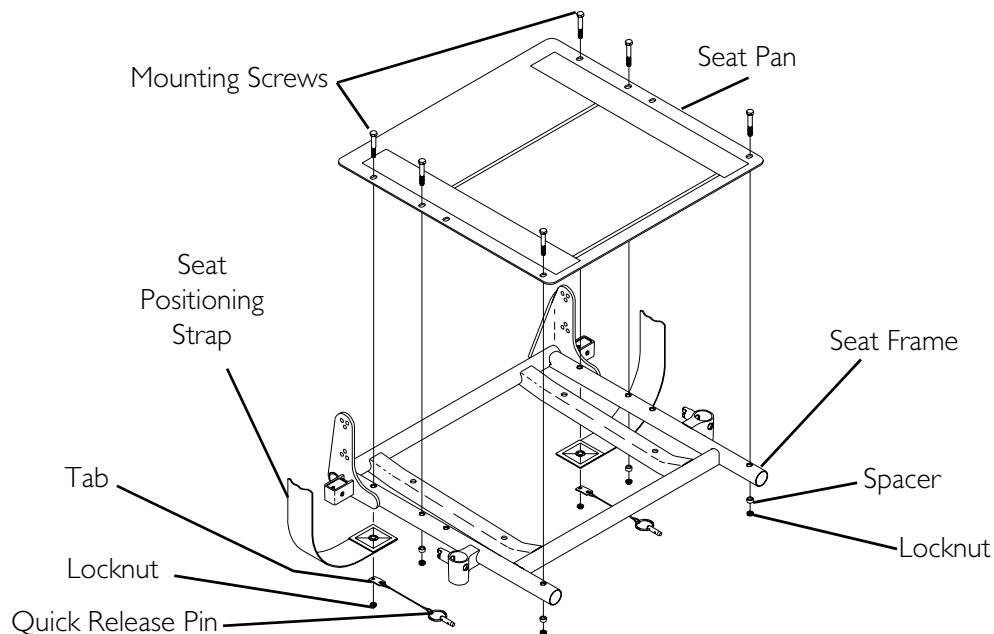

FIGURE 4.12 Removing/Installing the Seat Pan
NOTE: For this procedure, refer to FIGURE 4.12.
3. Remove the four mounting screws, locknuts and four spacers securing the seat pan to the seat frame (FIGURE 4.12).